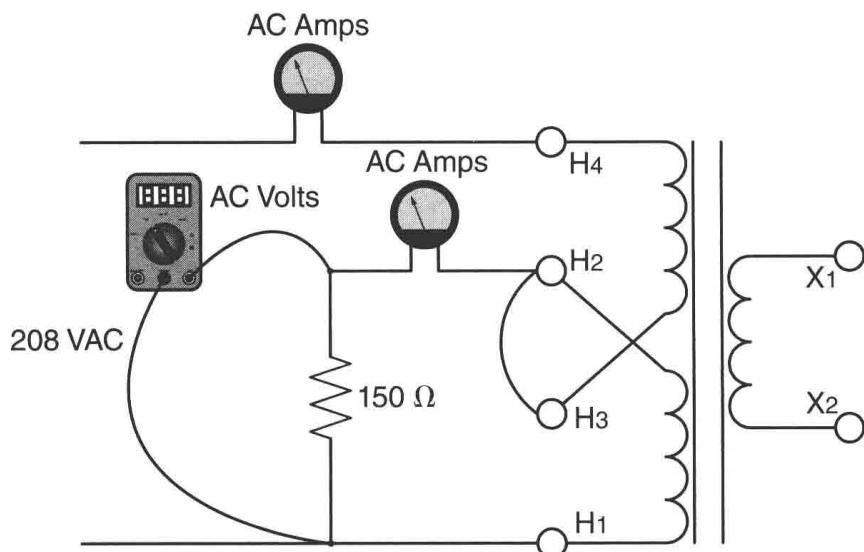

Figure 22-7 Connecting a load to the autotransformer.
7. Connect an AC ammeter in series with the H_2 terminal and a 150-ohm resistor as shown in Figure 22-7. The secondary winding of the transformer will be between terminals H_2 and H_1 .